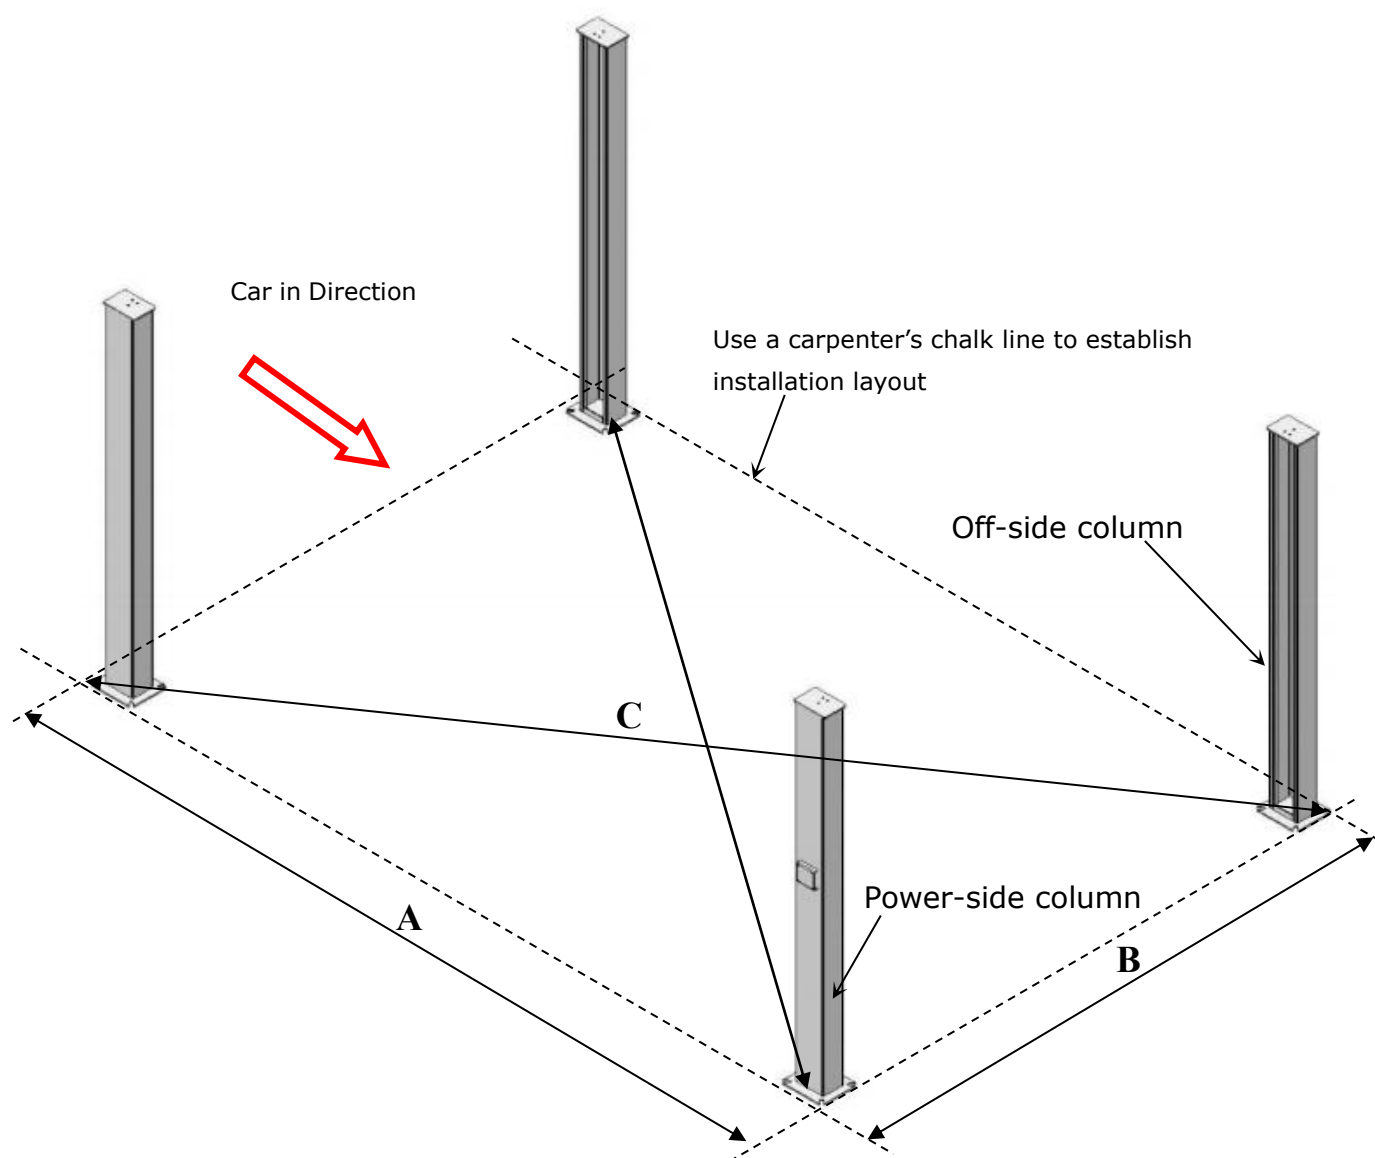

Fig. 11
C. Use a carpenter's chalk line to establish installation layout, make sure the size is right and base is flat (**see Fig. 11**).